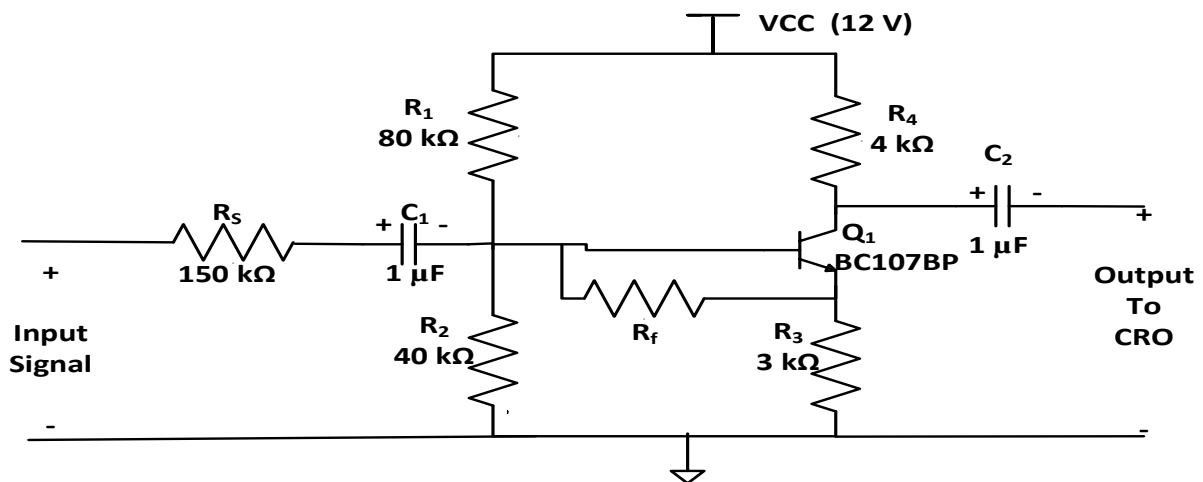

Figure7.1: Current shunt feedback amplifier
7.1 Simulate a current shunt feedback amplifiers as shown in Figure 7.1 using MULTISIM. Draw the frequency response of current shunt feedback amplifiers.